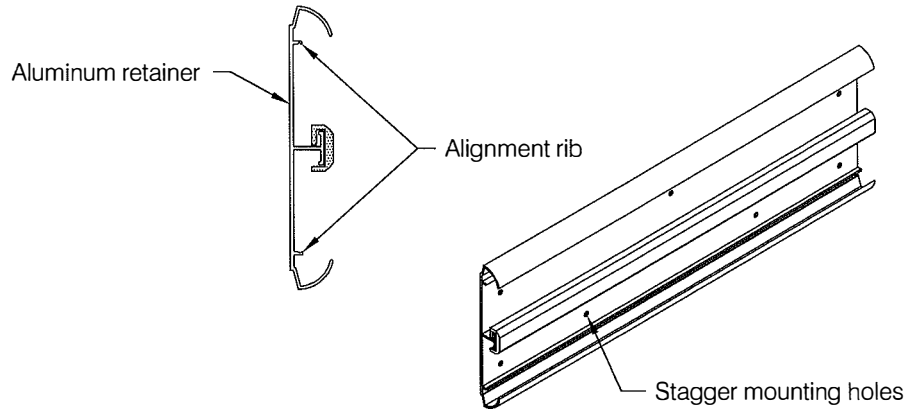

fig 2
- Step 3:** Pre-drill clearance holes in aluminum retainer along V-Grooves provided using a #15 (.180") bit for #8 fastener or a #7 (.201") bit for #10 and 3/16" fasteners, see **fig 2**. Stagger mounting holes between upper and lower V-Grooves 16" on center such that fasteners are 32" on center along each groove. If necessary adjust spacing to accommodate studs. Do not pre-drill at locations that will interfere with installation of molded accessories.